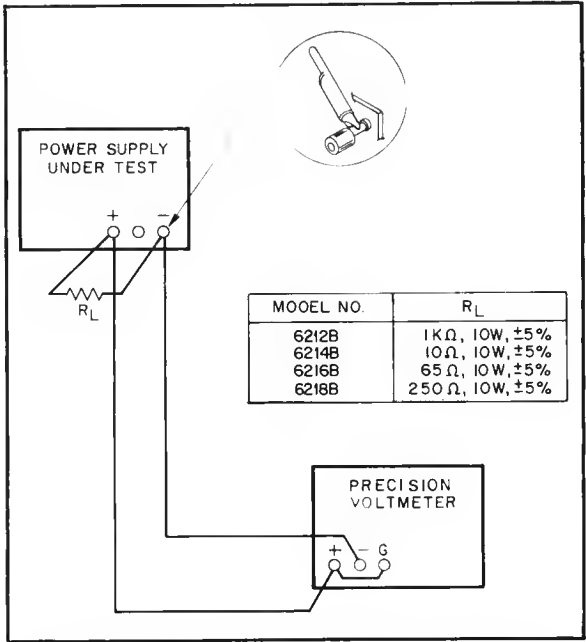

Figure 5-2. CV Load Regulation, Test Setup.
- a. Connect load resistor (R_L), indicated in Figure 5-2, across the output terminals of supply.
- b. Connect test setup shown in Figure 5-2.
- Connect the load resistance and differential voltmeter as illustrated in Figure 5-2.